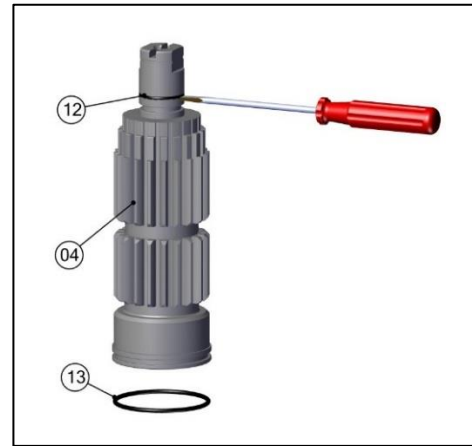

Fig No.21
- f) Remove the top and bottom 'O' rings (12, 13). Discard & replace all soft parts. (refer fig no.21)